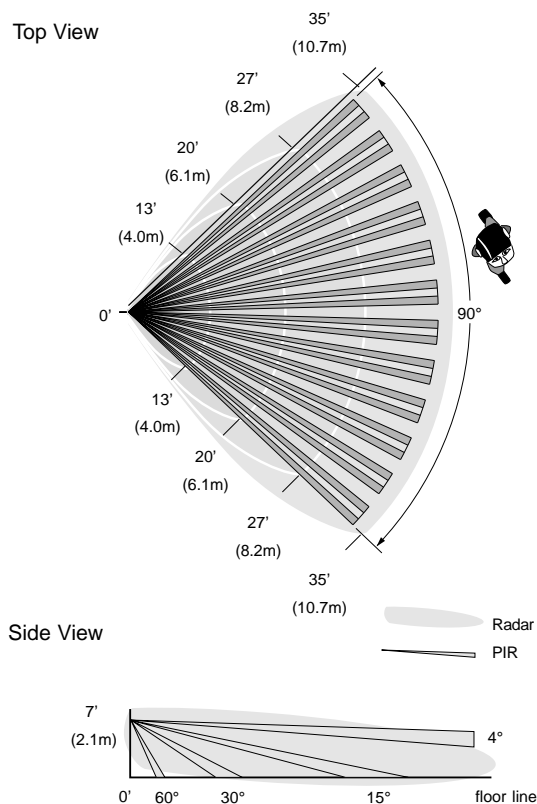

Figure 2 - RCR and PIR Coverage Patterns
- Mount the sensor so the expected movement of an intruder is within a 90-degree radius in front of the sensor. See Figure 2.